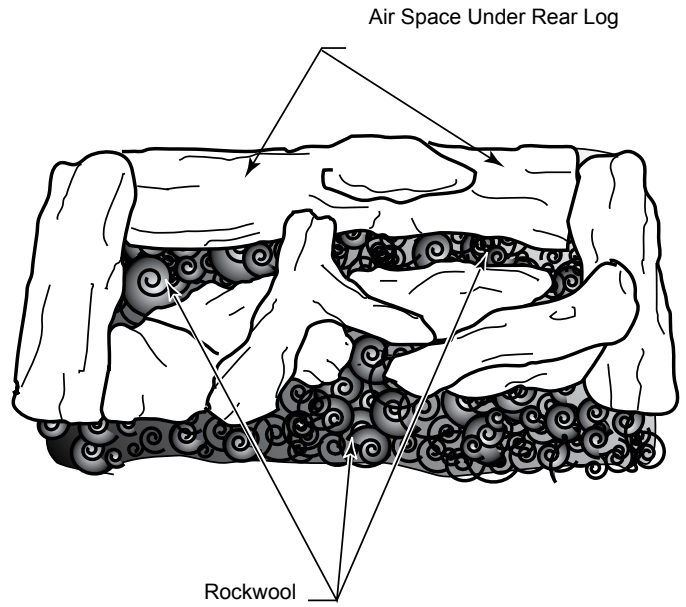

Figure 44
9. Place right top log (#5) on two pins on middle left log. *Figure 44*